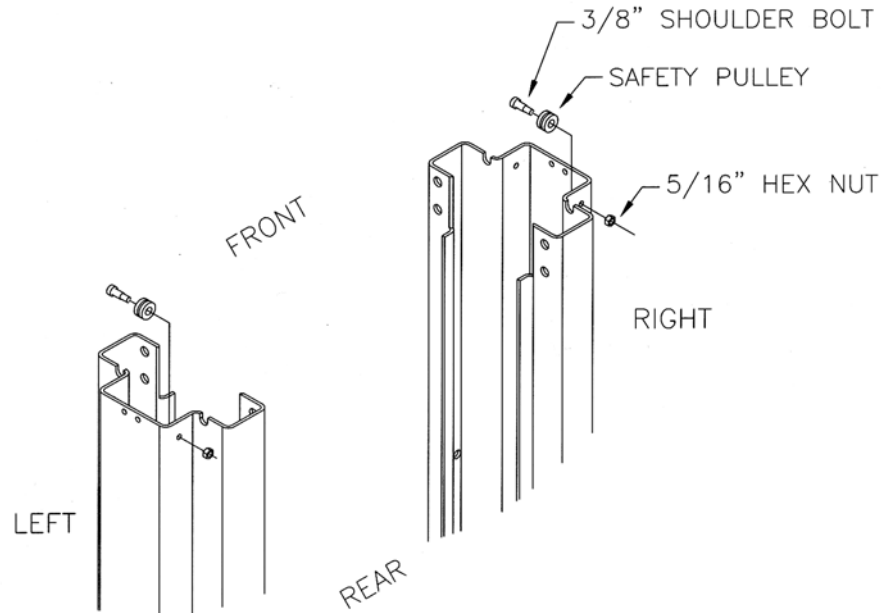

Figure 7 - Safety Release Pulley Installation
2. **Figure 7.** Attach the safety pulley to the tower using the 3/8" x 5/8" LG. shoulder bolt, 5/16" lockwasher and 5/16" hex nut.